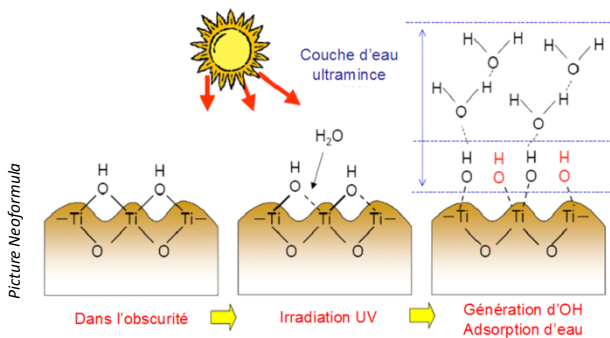

Figure 2 Superhydrophilic film formation with TiO2 as photocatalyst
- Creation of a super hydrophilic surface favoring the runoff of rainwater and thus the washing of the surface (figures 2 and 3)